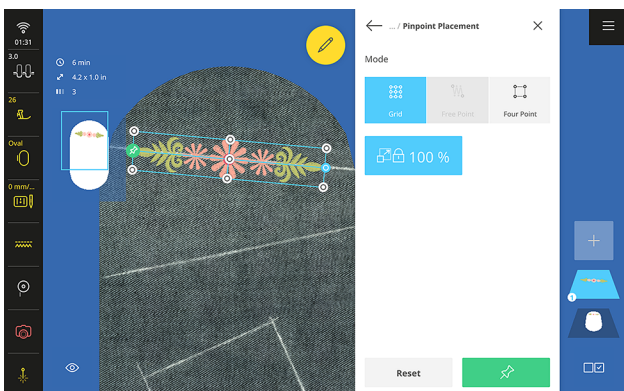

Fig. 45
16. Use either Multi-function Knob to rotate the design until satisfied with its placement on the line (Fig. 45).